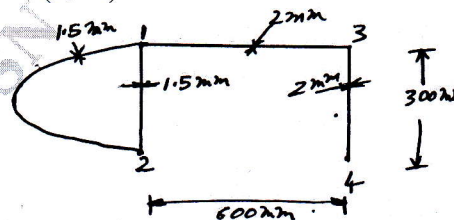

Fig.Q3(a)
- 3 a. Find the angle of twist per unit length in the wing whose cross-section is shown in Fig.Q3(a) when it is subjected to a torque of 10 kNm. Find also the maximum shear stress in the section.  $G = 25 \text{ GPa}$ . Wall 12(outer) = 900 mm. Nose cell area = 20,000 mm2.